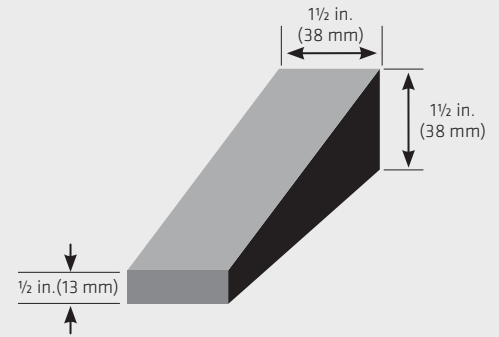

FIGURE 4: Temporary Wooden Wedge, two per horizontal joint required on 5 x 5 and four per horizontal joint required on 5 x 9 and 5 x 10.
- ▶ Hardwood wedges (Figure 4)